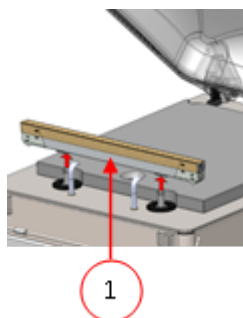
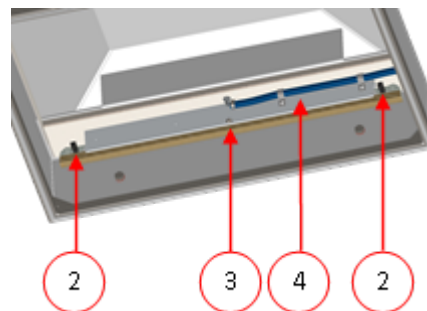

Figure 24: Removing the Sealing Bar (Plastic Lid)
Figure 25: Removing the Sealing Bar (Metal Lid)
On machines with a plastic lid, the sealing bars are mounted on cylinders (*Figure 24: Removing the Sealing Bar (Plastic Lid)* on page 65). On machines with a metal lid, the sealing bars are mounted in the lid (*Figure 25: Removing the Sealing Bar (Metal Lid)* on page 65).
1. Remove the sealing bar by lifting it from the cylinders. See *Figure 24: Removing the Sealing Bar (Plastic Lid)* on page 65.
Plastic lid	Lift the sealing bar from the cylinders. See Figure 24: Removing the Sealing Bar (Plastic Lid) on page 65.
Metal lid	See Figure 25: Removing the Sealing Bar (Metal Lid) on page 65. Remove the sealing bar from the holders (4) by disconnecting the two electrical connector plugs (2) and removing the M6 screw (3).